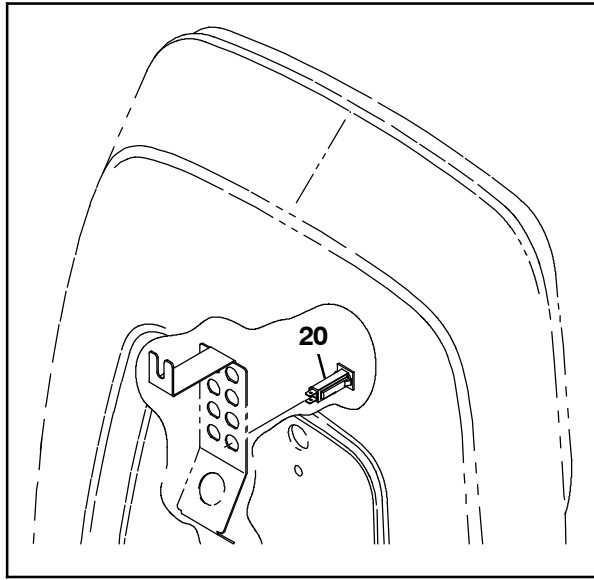

FIG. 11
27. Insert a 2.5- Amp circuit breaker (20) into circuit breaker location CB15 in the circuit breaker bracket. (Fig. 11)
28. Connect the main wire harness to the 2.5- Amp circuit breaker (20) installed in the previous step. (Fig. 11/Fig. 13)